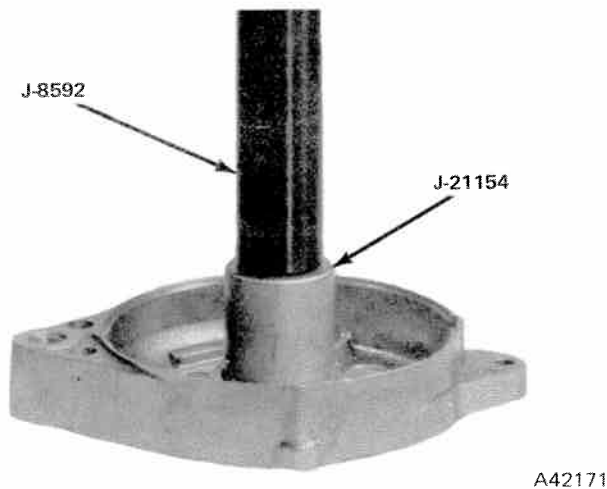

Fig. 3-32 Installing Front Bearing
(1) Clean bearing and inside of bearing hub of front housing.
(2) Support front housing and using Drive Tool J-21154, J-8092, or J-8592 Driver Handle, apply sufficient pressure to outside race of bearing to seat bearing as shown in figure 3-32. A 1-1/8-inch socket also can be used to seat bearing in front housing.
(3) Insert split ring washer into hub of front housing and use Tool J-21154 to seat washer into groove of hub.